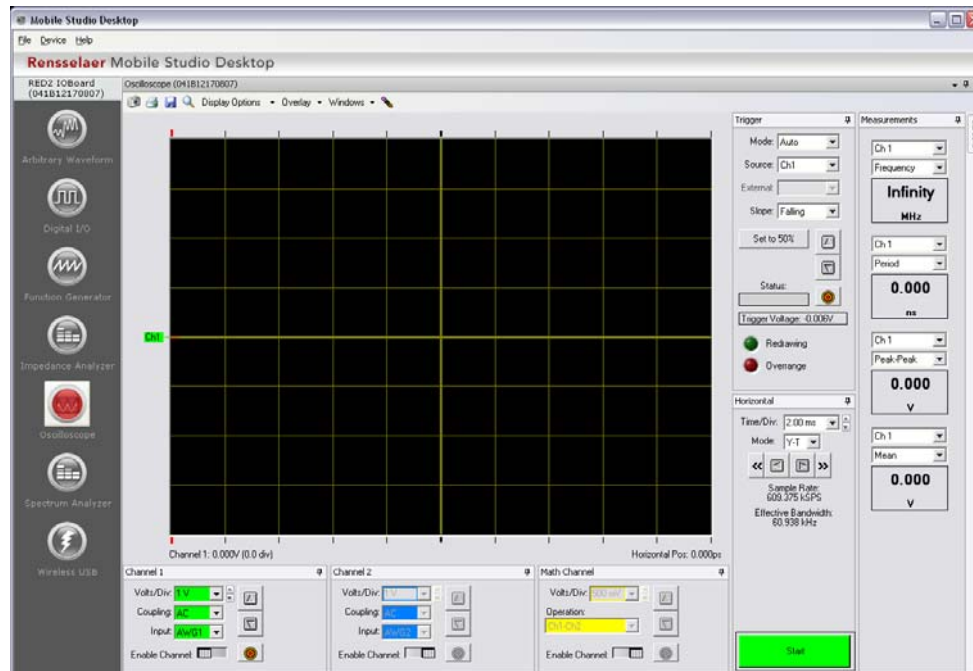

Figure 2.0: Oscilloscope Function
- 1) Select the “Oscilloscope” icon third from the bottom along the left panel of the screen, shown in Figure 2.0.
- 1) Open the “Arbitrary Waveform Generator” by selecting the icon on the top of the left panel, which should bring up the window below shown in Figure 2.0.